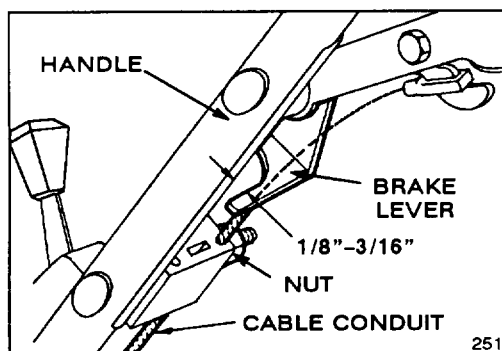

Figure 30
2. CHECK ADJUSTMENT (Fig. 30)—Move control bar toward handle until slack in wire is removed. Gap between brake lever and handle must be $1/8''$ - $3/16''$. See step 3 for adjustment.
(Fig. 30)—Loosen nut on cable bracket. Insert $1/8''$ - $3/16''$ object between brake lever and handle. Pull down on